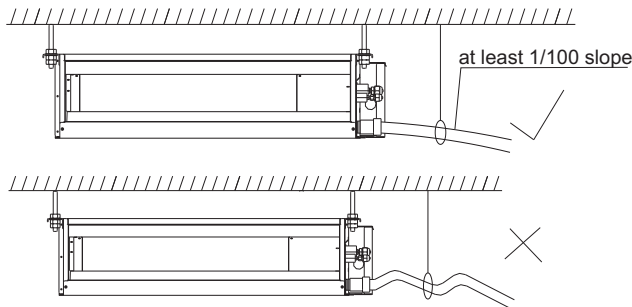

Fig 5.2
- Keep the drain pipe short and sloping down wards at a gradient of at least 1/100 to prevent air pockets from forming. Following Fig5.2.